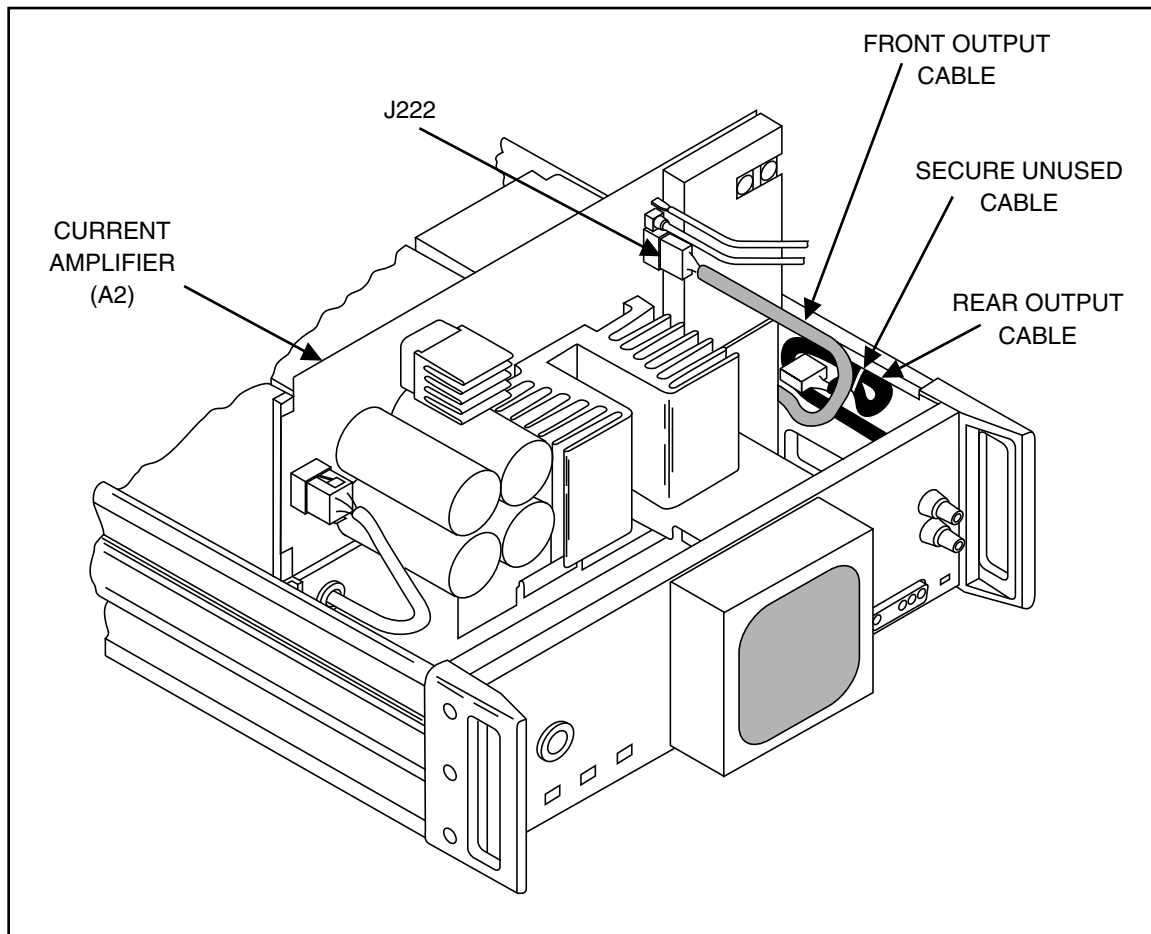

Figure 6-7. Enabling Front or Rear Binding Posts
3. Refer to Figure 6-7, and locate J222 on the Current Amplifier assembly.
Make sure that the unused connector is neatly secured in the recessed area of the chassis side, away from the High Voltage Sense assembly as Figure 6-7 shows. If it is allowed to hang down, shorting can occur.